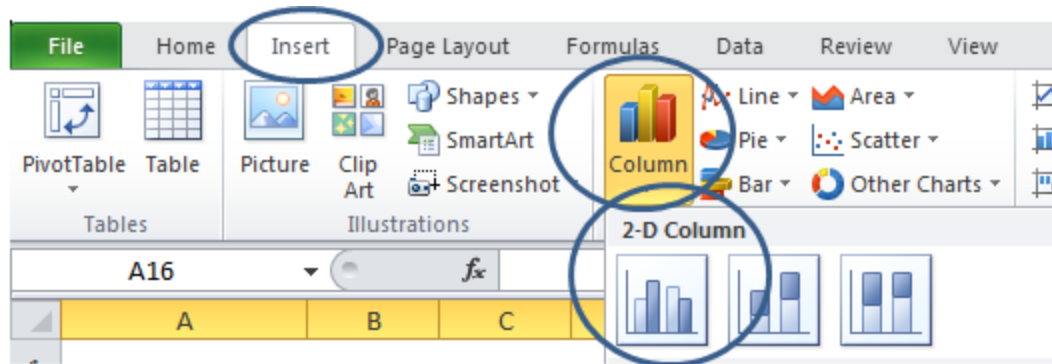

Figure 3.18. Column chart options
2. On the Insert tab, in the Charts group, click the Column button, . A selection of column charts displays, as shown in Figure 3.18.